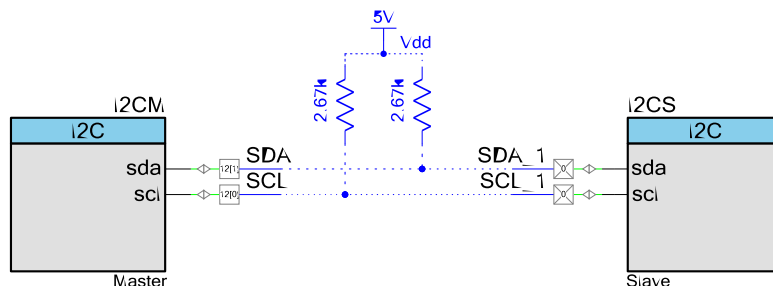

Figure 1. Connection of SDA and SCL to pull-up resistors
3. For I2C communication, connect P12[0] to SCL, P12[1] to SDA. Use 2 external 2.67k resistors to pull-up SCL and SDA to 5V (Figure 1). Note that Figure 1 is a depiction for the
4. Externally connect the corresponding pins (SCL and SDA) on I2C Master board to the Slave (SCL and SDA) as depicted in Figure 1.